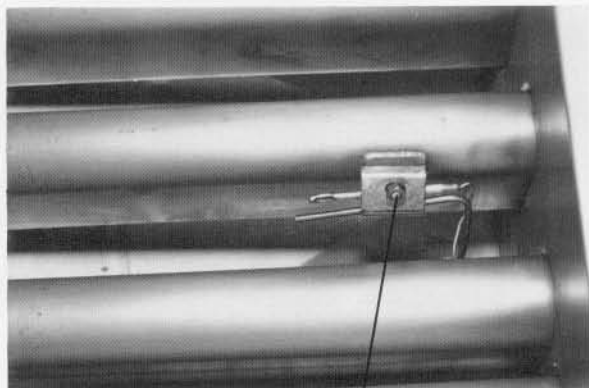

Figure 5
5. Using wrench, remove nut, clip and spring holding hi-limit thermostat bulb to bracket inside pot (Fig. 5).